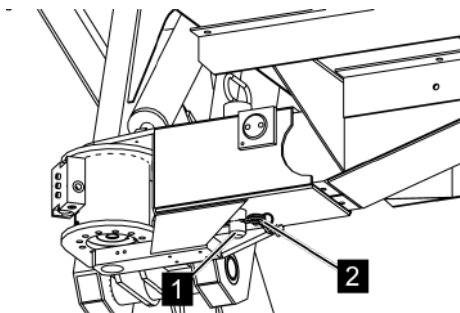

Fig. 107: Pull out the spring cotter pin
3. ➔ Pull the spring cotter pin (Fig. 107/2) out of the fastening bolts (Fig. 107/1).